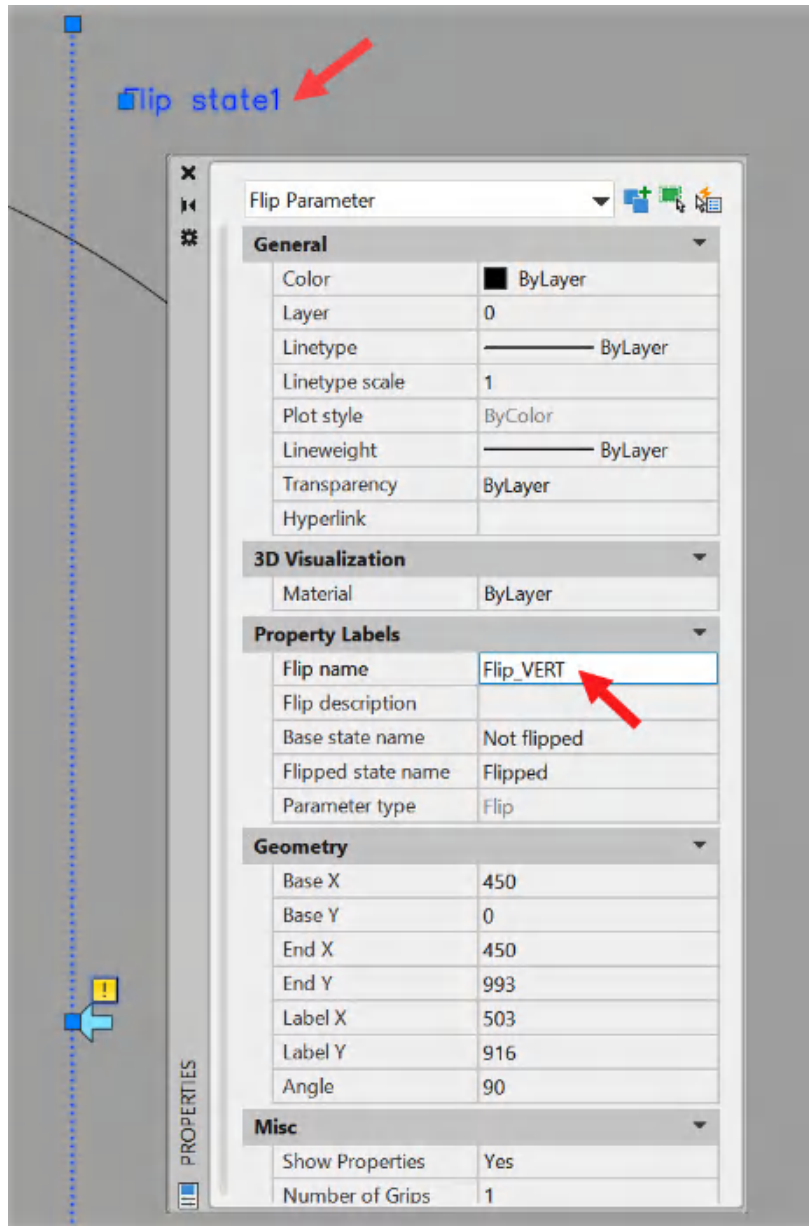

Figure 11.16: The property label name on the Properties palette
9. Your vertical **Flip** parameter is now placed. Select the parameter, right-click, and select **Properties** on the shortcut menu. In the **Properties** palette, rename the **Flip name** property label to **Flip\_VERT**, as shown in *Figure 11.16*.